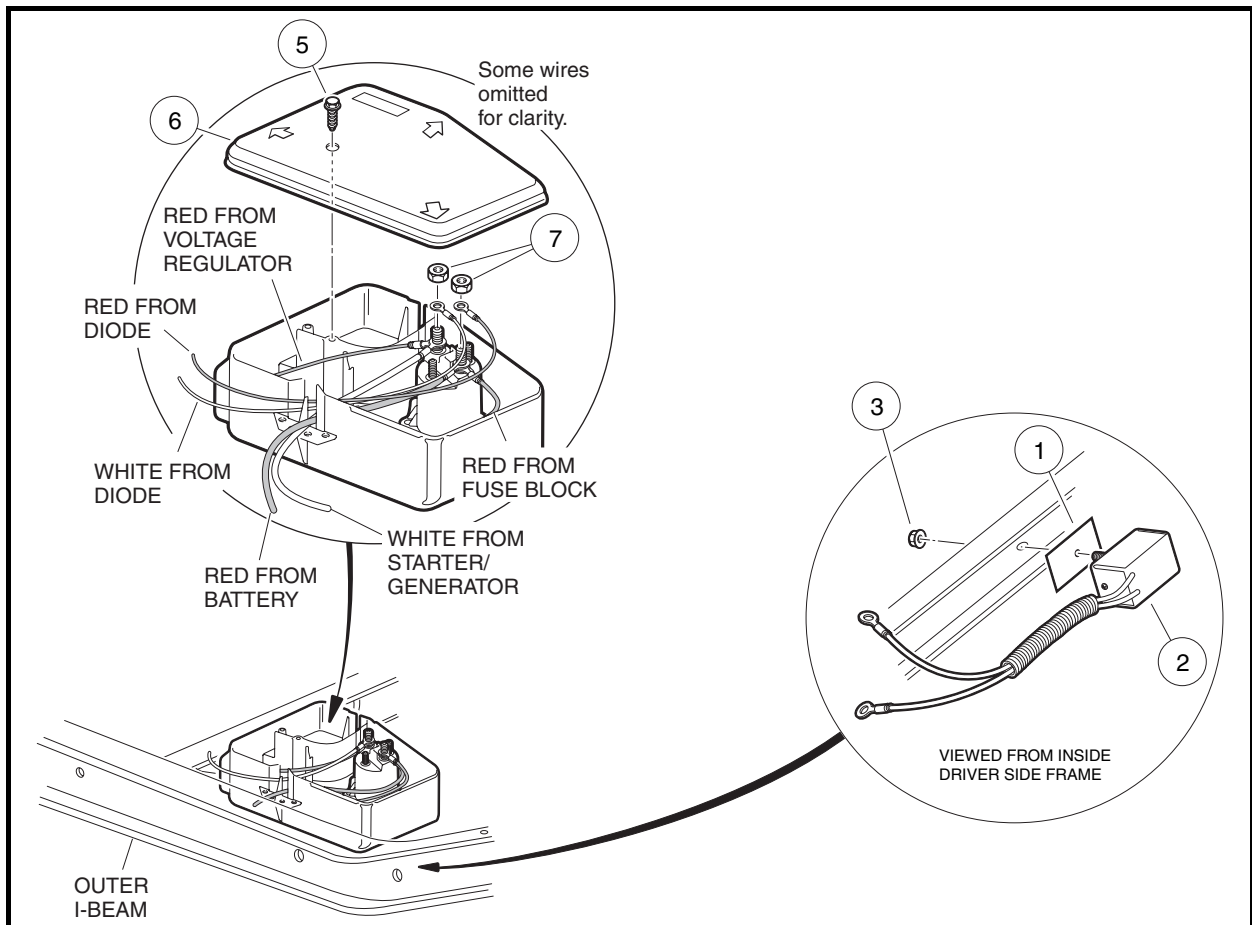

Figure 13-16 Electrical Component Box and Diode Orientation
4. Remove the cover screw (5) and electrical component box cover (6) (**Figure 13-16, Page 13-13**).
5. Remove the nuts (7) from the two large solenoid posts and disconnect the diode wires from the solenoid.
6. Remove the nut (3) and remove the diode (2) and thermal transfer pad (1) from the vehicle frame (**Figure 13-16, Page 13-13**).
2. Peel the protective film from both sides of the new thermal pad (1) (**Figure 13-16, Page 13-13**). **See following CAUTION.**
3. Mount the diode (2) using the thermal transfer pad (1) and mounting nut (3) and tighten to 25 in-lb (2.8 N·m) (Figure 13-16, Page 13-13). See following NOTE.
NOTE: Diodes are mounted in one of two different locations, depending on the vehicle model (Figure 13-16, Page 13-13).
- 4.1. Connect the 12-gauge red wire from the diode to the solenoid post with the fuse block and battery red wires and tighten locknut (7) to 55 in-lb (6.2 N·m) (**Figure 13-16, Page 13-13**).